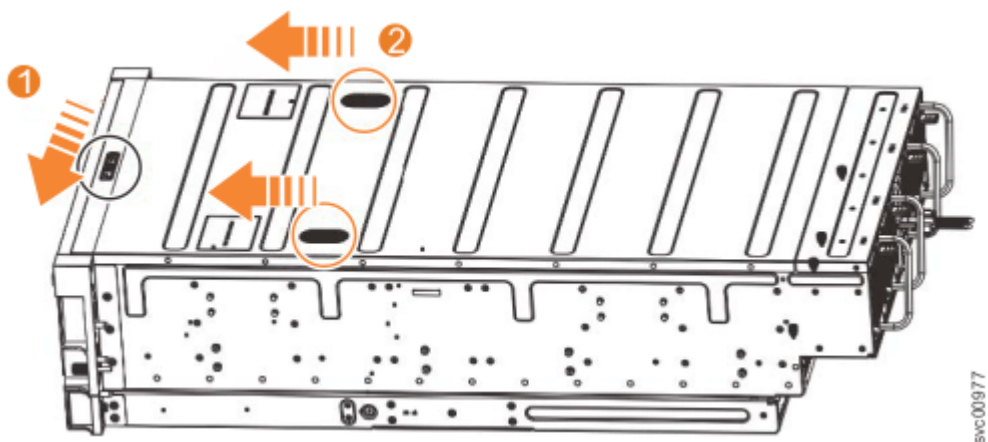

Figure 31. Releasing the 2072-92F cover
1. Slide the release latch (1) in the direction that is shown in Figure 31 on page 53.
2. Slide the cover toward the front of the expansion enclosure (2), as shown in Figure 31 on page 53.